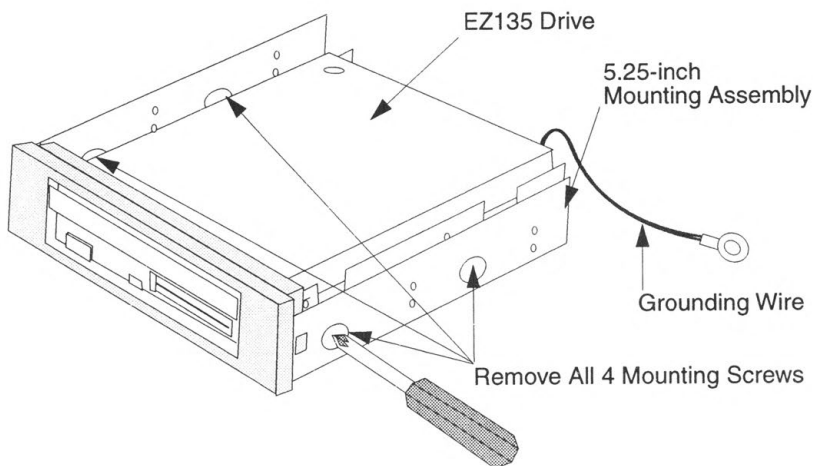

Figure 12. Remove the EZ135 Drive from the Mounting Assembly (3.5-inch Bays Only)
- b. **Remove the four screws that hold the EZ135 drive into the 5.25-inch mounting assembly as shown in Figure 12.**